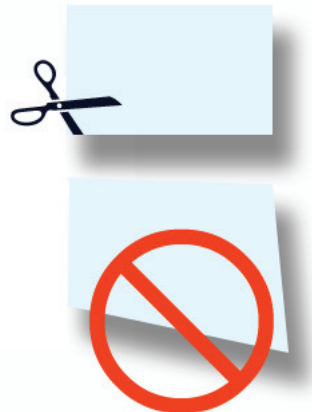

Figure 27. Cutting the Damaged End off the Roll
5. Cut the recovered interrupted print off the roll with a straight cut across the leading edge (see Figure 27).